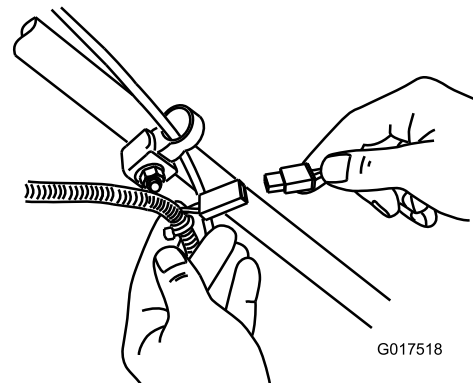

Figure 32
- Connect the charger to the wire harness located below the ignition key (Figure 32).